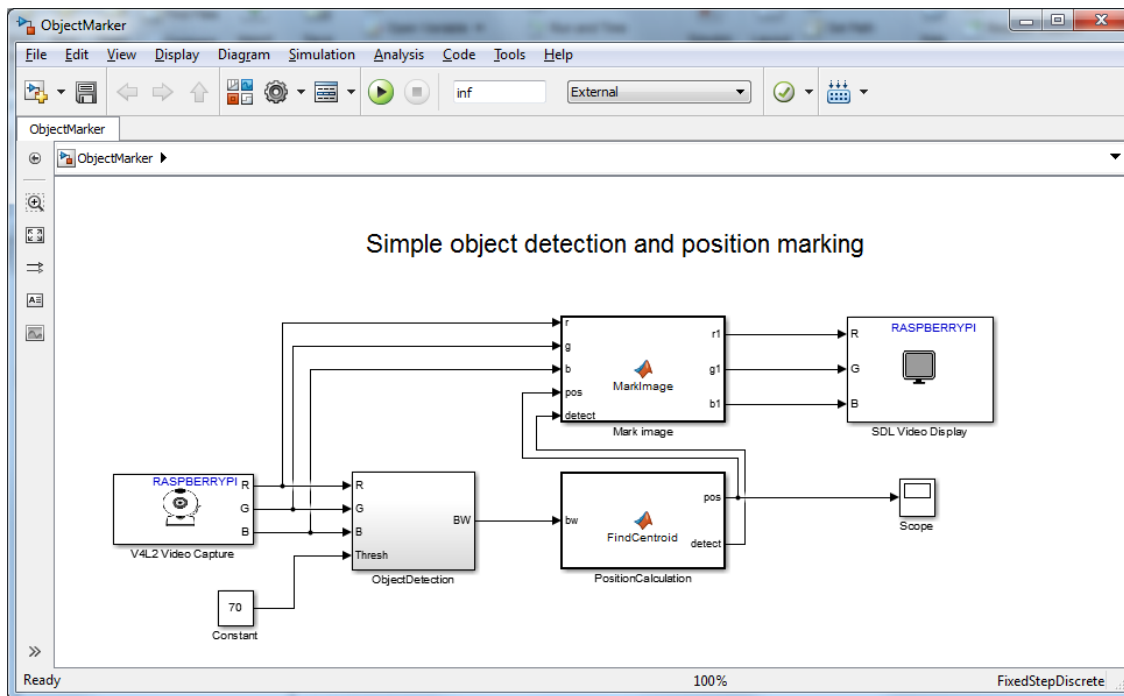

Figure 25: Object Marker model
11. Create a model **ObjectMarker.slx** as below (**Figure 25 & 26**):